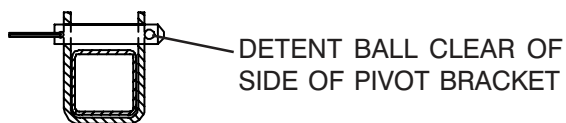

Figure 2-9. Correct Position of Locking Pin
**1- Guardrail Locking Pin With Lanyard** - To fold the guardrail system down, remove the locking pin at each pivot point and lower each guardrail. To raise the guardrail system, swing up each guardrail and lock in place with the locking pins ensuring that the detent ball of each pin is clear of the side of the pivot brackets. (Figure 2-9.)
3. If equipped with a fold-down guardrail system, swing up and lock all guardrails in place with locking pins. (Refer to Figure 2-9.).